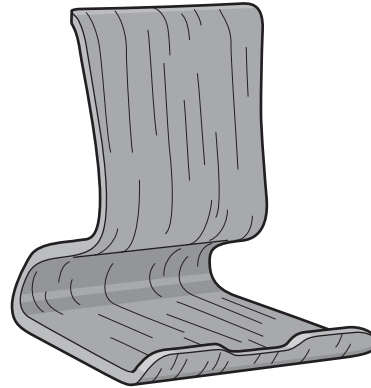

Fig. 1.1
- 1 Fig. 1.1 shows a wooden stand for a mobile phone.